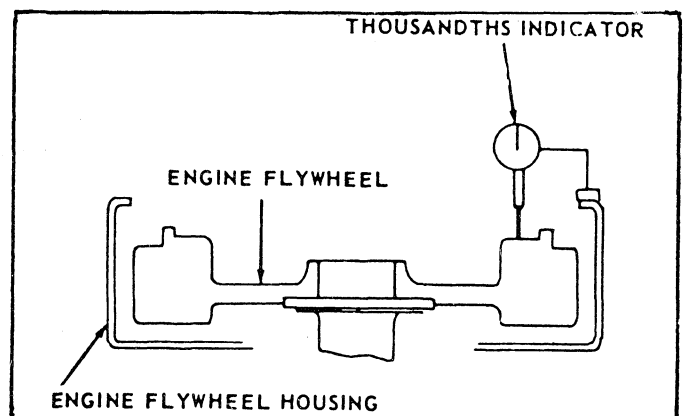

Figure 51. Checking the Driving ring surface of the engine Flywheel Housing.
F. Checking Driving Ring Surface of Engine Flywheel. Bolt a dial indicator graduated in thousandths inches to the engine flywheel housing so that the indicator is perpendicular to the engine flywheel, and the indicator stem is riding on the inner face of the flywheel (fig. 51). The variation of the face runout of the surface to which the driving ring is bolted should not exceed 0.0005-inch maximum total indicator reading per inch of diameter.